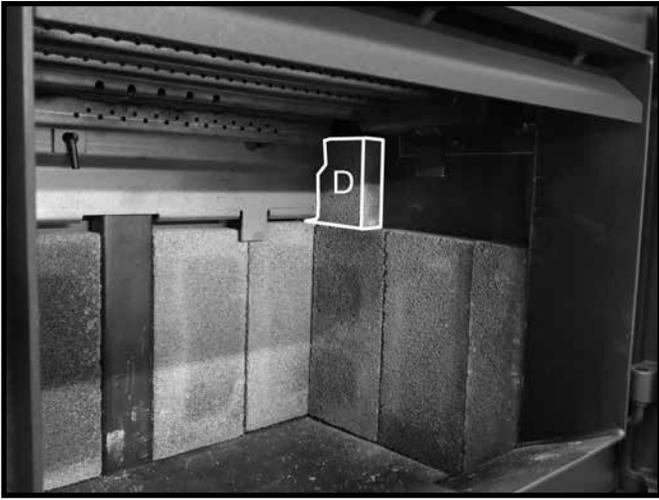

Figure 22: Small side wall firebrick in position.
1. Place a "D" firebrick on top of the previously placed "A" firebricks and slide this firebrick back toward the rear wall making sure that this firebrick tucks in behind the brick rail (Figure 22).